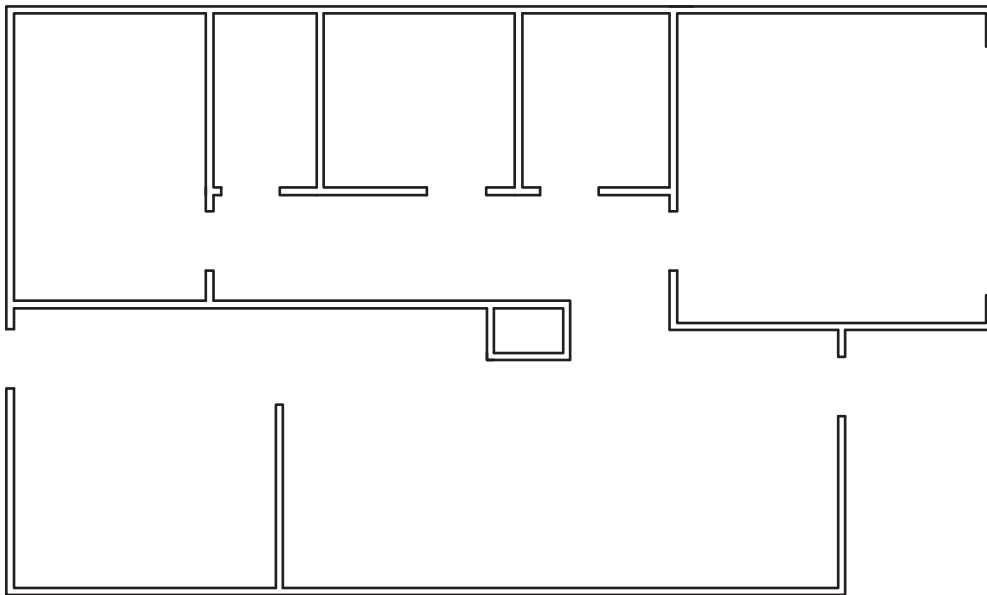

Fig. 22-7
1. The **frame.dwg** file, which you created in “Using Problem-Solving Skills” problem 3 in Chapter 18, is shown in Fig. 22-7. (If you have not yet created the drawing, create it now.) Use the drawing and editing commands to insert windows and doors into the floor plan. Do research if necessary to find standard window and door widths so that you can create them accurately. Then create a table to show the sizes, kinds, and prices for the windows and doors. In the last column, show the number of each type of window or door. In the last row, use one or more formulas to find the total number of windows and doors.